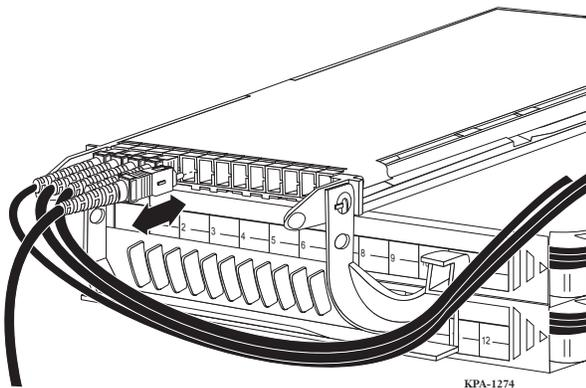

Figure 47
Step 3: Remove dust caps and clean adapters and connectors per standard company practices or as described in Section 13. Connect jumpers (Figure 47) as required.